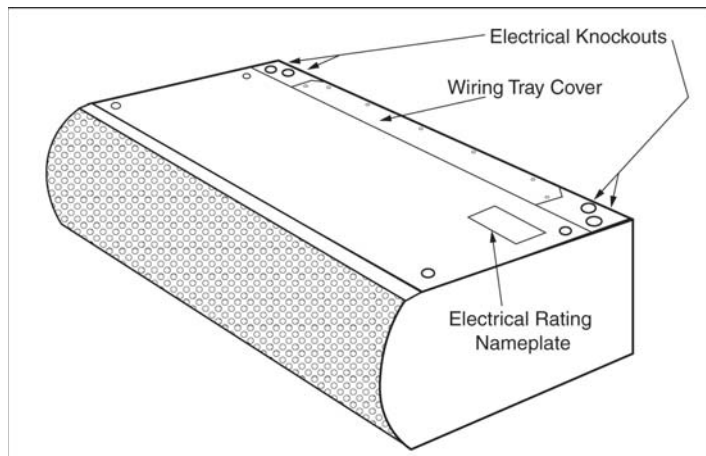

FIGURE 7 - Electrical Connections
rating nameplate. Remove the required knockouts and attach necessary electrical hardware. Save the wiring diagram found inside of wiring tray. See Figure 7
- D. The top of the unit is provided with two knockouts on each side allowing for a left or right hand power connection. Remove the wiring tray cover; on units that are comprised of modules, remove the wiring tray cover that is located closest to the electrical rating nameplate. Remove the required knockouts and attach necessary electrical hardware. Save the wiring diagram found inside of wiring tray. **See Figure 7**
- A. Check the rating nameplate on the top of the unit for supply voltage and current requirements. **See Figure 7**. A separate line voltage supply with a suitable branch circuit protection device should be run directly from the main electrical panel to the unit. A disconnect switch for each branch circuit is a required part of this installation. **See Tables 2 & 3**